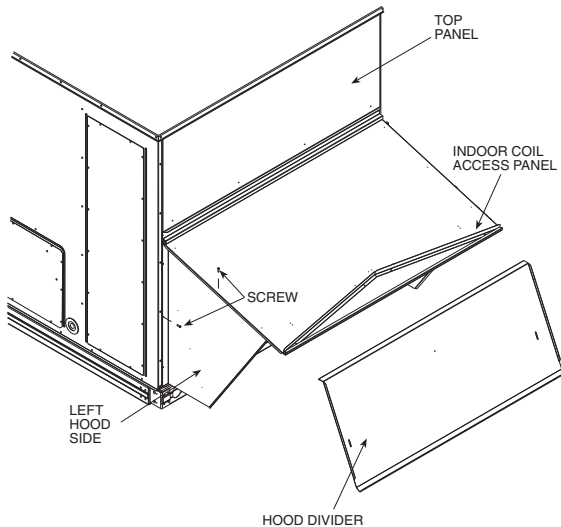

Fig. 21 — Economizer Hood Construction (Size 16 Shown)
2. Swing out indoor coil access panel and insert the hood sides under the panel (hood top). Be careful not to lift the panel too far as it might fall out. Use the screws provided to attach the hood sides to the hood top. Use screws provided to attach the hood sides to the unit. See Fig. 21.
4. Insert the hood divider between the hood sides. See Fig. 21 and 22. Secure hood divider with 2 screws on each hood side. The hood divider is also used as the bottom filter rack for the aluminum filter.